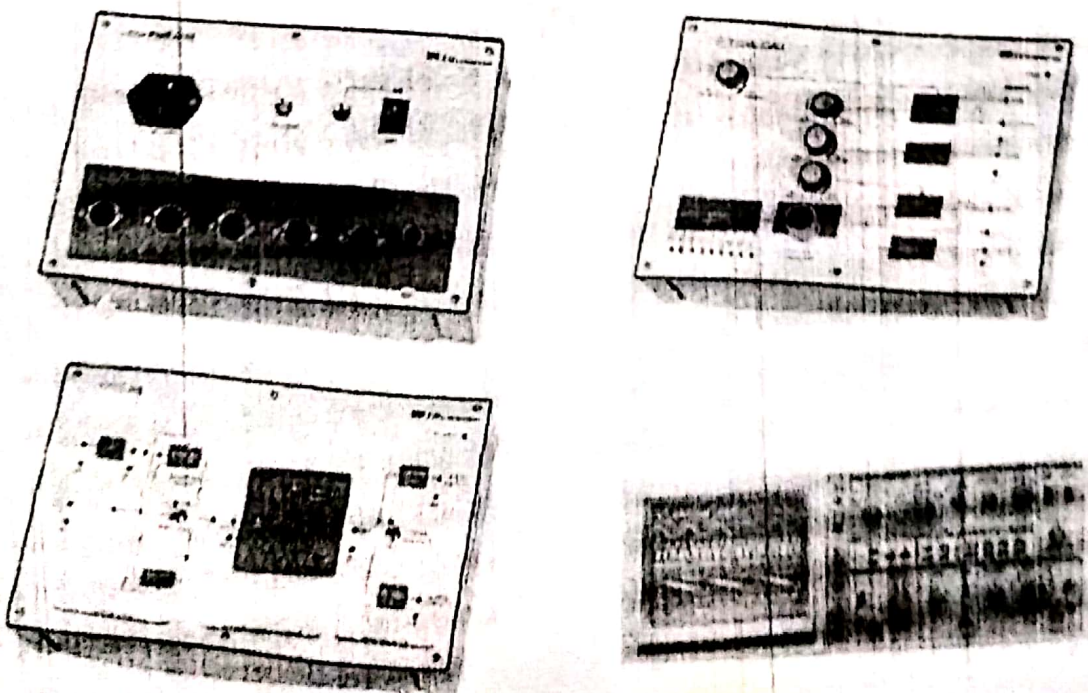

Figure 2-4. Module and Measuring device for experiment
- (1) Prepare module and measuring device like as figure 2-4. Provide power to device.